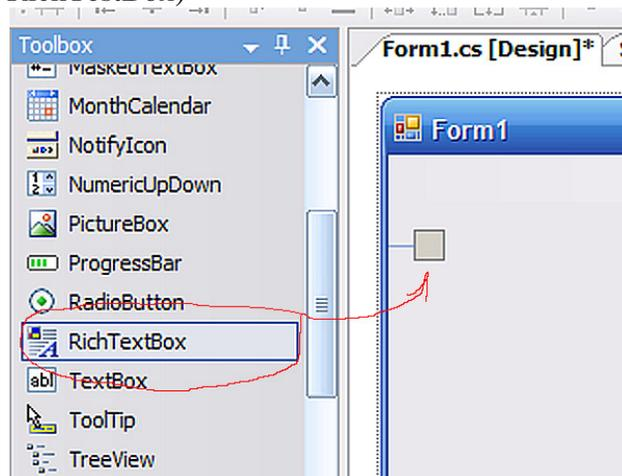

Figure 10: Add RichTextBox
- In the Toolbox click and hold the RichTextBox then drag and drop it on Form1. (Figure 10: Add RichTextBox)